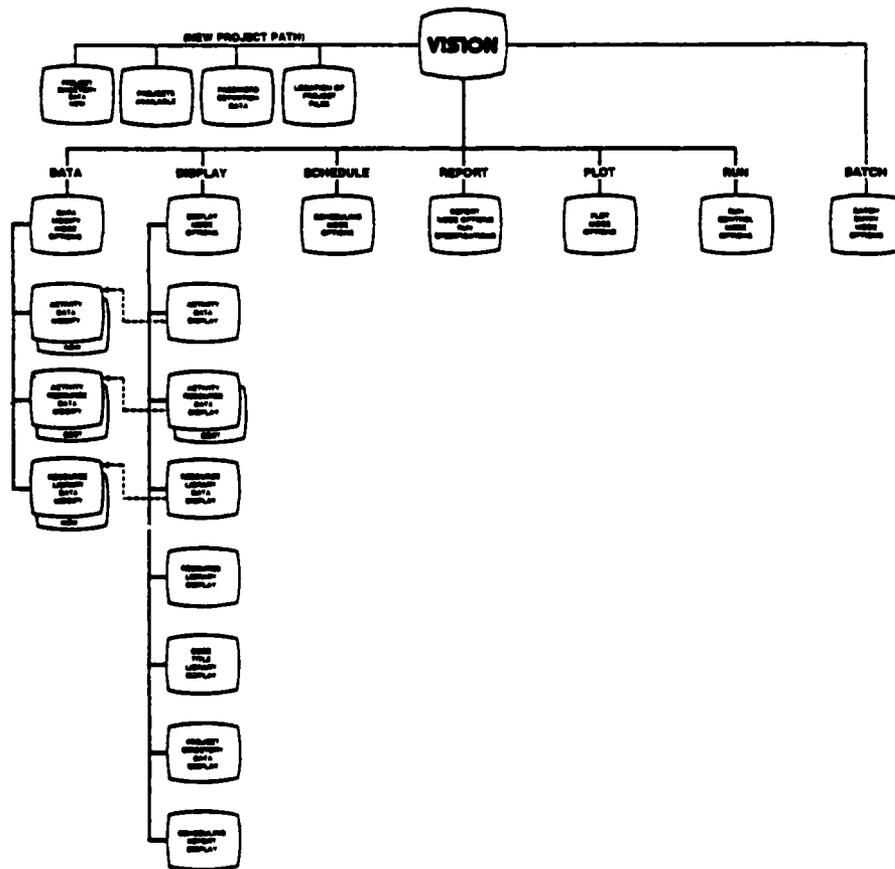
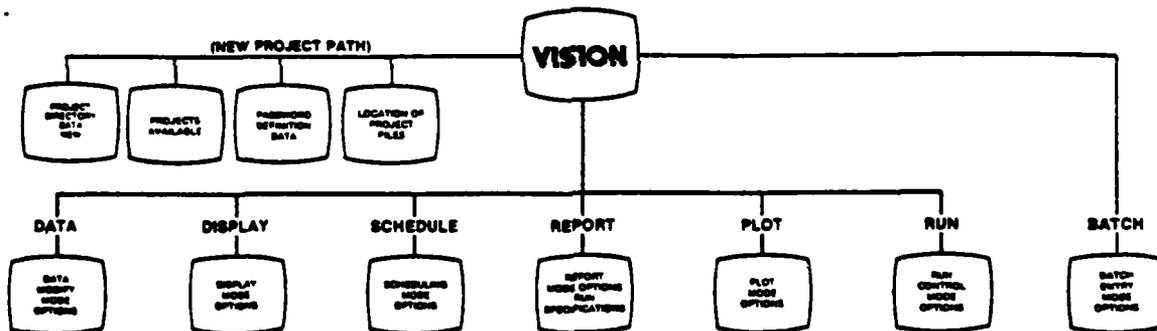

Figure 3-9. Data Display System
Figure 3-10. Scheduling System
DATA DISPLAY MODE. The set of DATA DISPLAY mode screens is shown at Figure 3-9. The DATA DISPLAY mode permits the user to select, for review, different types of information from the project file. The DATA DISPLAY mode is accessed by pressing the DISP key. ALL DATA DISPLAY screens will have the word "display" in the screen title. The dashed lines between the DATA DISPLAY and DATA MODIFY screens as shown at Figure 3-10 indicates that the DISPLAY screen may be changed to a MODIFY screen simply by pressing the CHG key. Additional information on each of the individual screens in this set is contained in pages 3.5-2 through 3.5-24 of the VISION User's Guide.
**SCHEDULING MODE.** The SCHEDULING mode screen is shown at Figure 3-10. The SCHEDULING mode permits the user to enter or revise a project schedule. This mode is also used to have the VISION system automatically check a project network for logic errors. There are two other screens available through this mode which have to do with resource leveling. The resource options will not be discussed within the scope of this handbook.